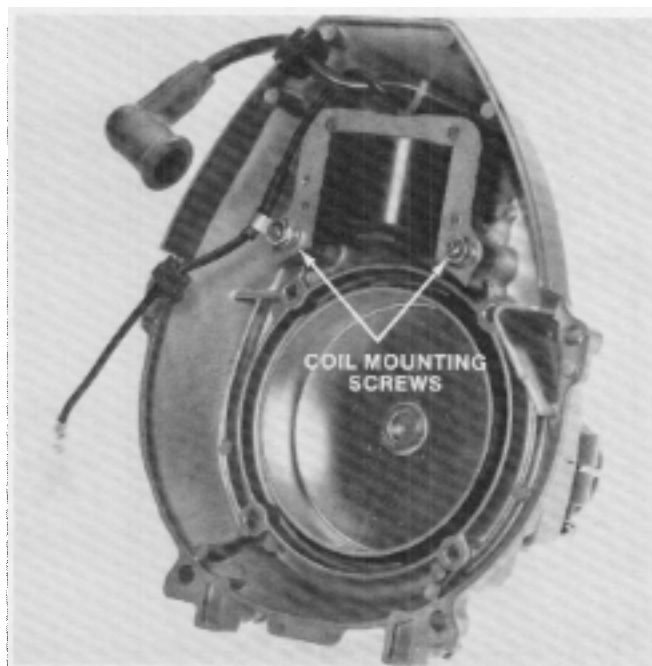

Figure 61
1. The coil on the TC5000 is mounted to the inside of the fan housing. The two coil mounting screws are located near the base of the cylinder. Loosen both coil mounting screws. See Figure 61